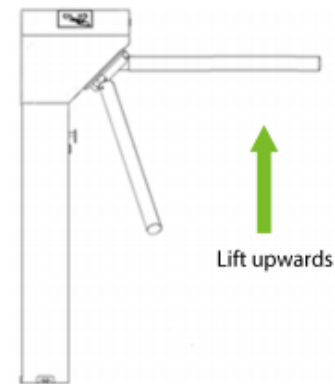

Figure 2-5
3. Arms will be lifted automatically, as shown in figure 2-5.